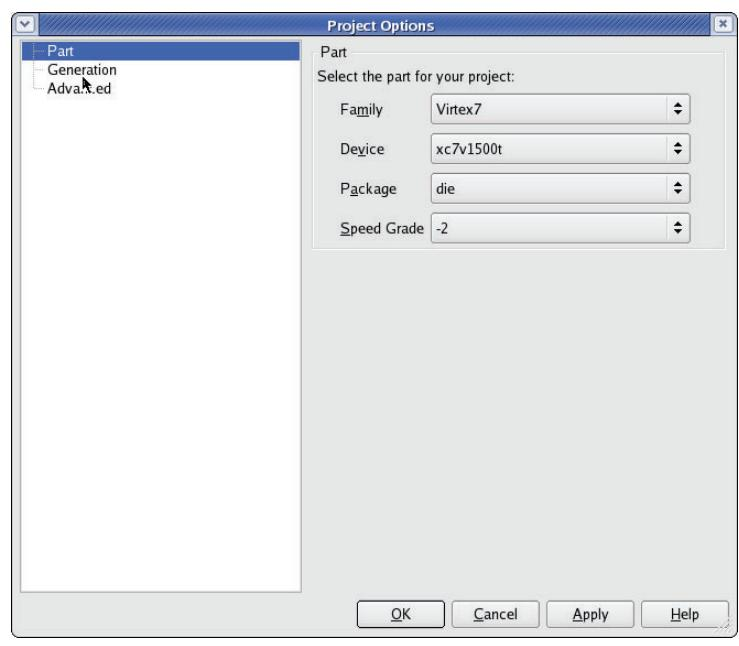

Figure 3-5: Target Architecture Setting
4. Select an appropriate package from the Package list. This example uses the XC7V1500T device (see Figure 3-5). For an example design using GTZ transceivers, select the XC7VH580T device.